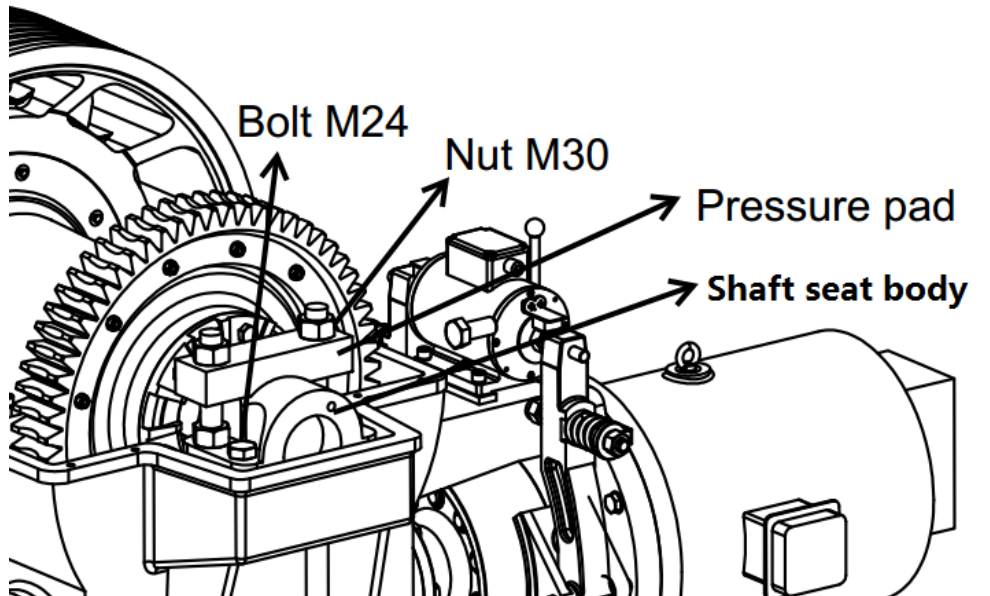

Figure 24 Remove the Support body.
7. Unscrew Bolts M24 and Nut 30. Remove the Pressure pad and shaft seat body. See Figure 24.
10. Insert, thread, and hand tighten the bolts (M24x120), Washers (24), nut 30 and pressure block. See Figure 24 (above).